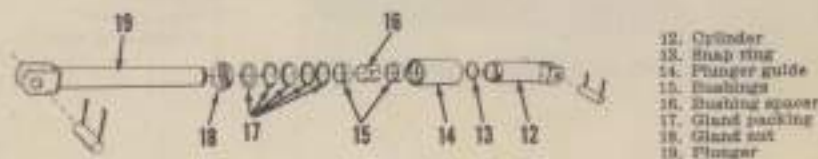

Fig. 170—Exploded view of 1 3/4 and 2 inch remote (cylinder) ram.
**255. 1 3/4 OR 2-INCH REMOTE RAM.** Both the 1 3/4 inch and the 2-inch remote ram are single acting only. Refer to Fig. 170 for exploded view of ram. Ram piston is retained in cylinder by snap ring (13) in groove on inner end of piston striking plunger guide (14) when piston is in extreme extended position. Disassembly and overhaul procedure is evident after inspection of unit and reference to Fig. 170.